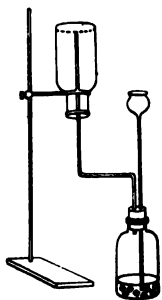

Fig. 23.
2. Collect a rec. of hydrogen by upward displacement, as follows: In place of the d.t. of the gen. (Exp. 20) insert a tube, which should reach nearly to the top of an inverted rec. (Fig. 23). The air will be forced down by the lighter gas. After generating the gas a minute try to explode the H.